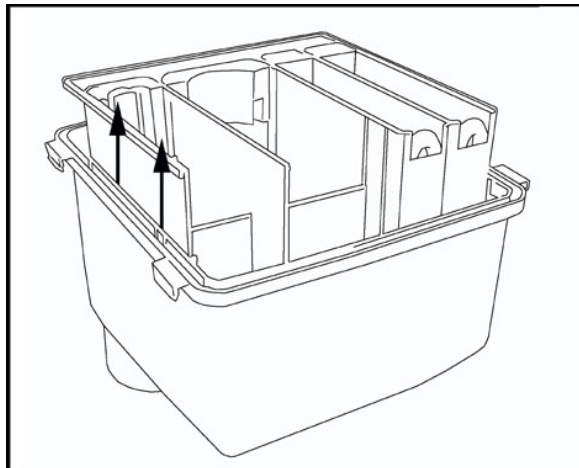

fig. 5
- To clean the lower basin, remove the leak seal and separate the two dispenser bodies by separating the side lips (**fig. 5**).